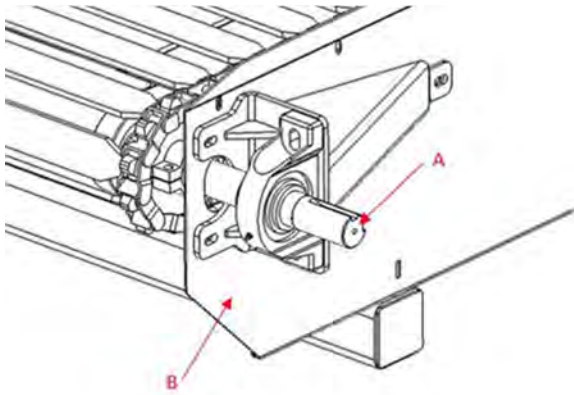

Figure 7-11a: Floor Shaft
It is important to have proper floor shaft alignment for ideal performance of the gearbox that is mounted on the shaft. Referring to Figure 7-11a, there is to be a distance of 10.50" between the end of the shaft (A) and the outside wall of the floor (B).